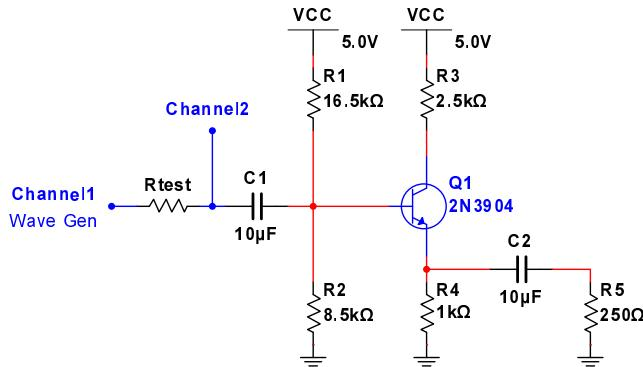

Figure 26: Amplifier setup for input resistance measurement
- Insert a test resistor (R_{test}) that is close to the calculated value of the input resistance R_i as in Fig. 26
- Connect **Channel 1**, **Channel 2** and **Wave Gen** as shown in Fig. 26